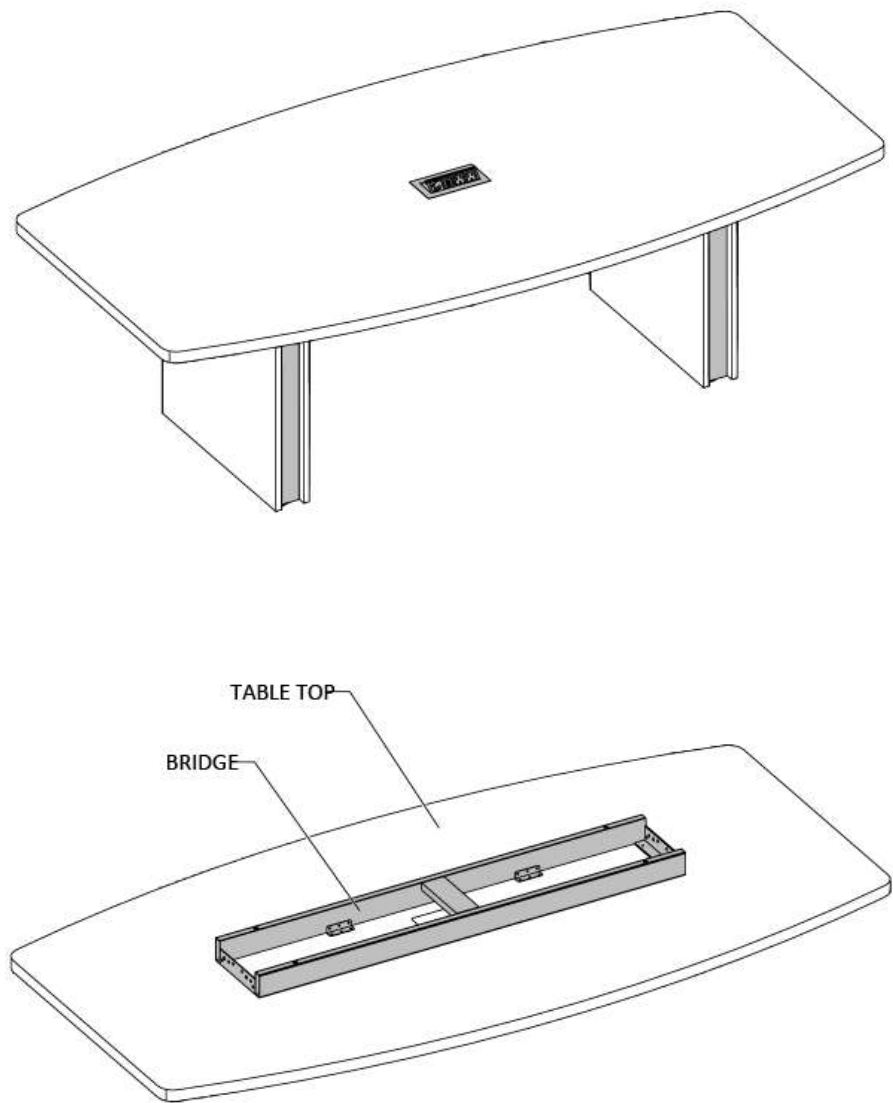

Figure 1
- 1. Place the table top face down on a clean solid surface or floor; Position the bridge to table top, (Figure 1).